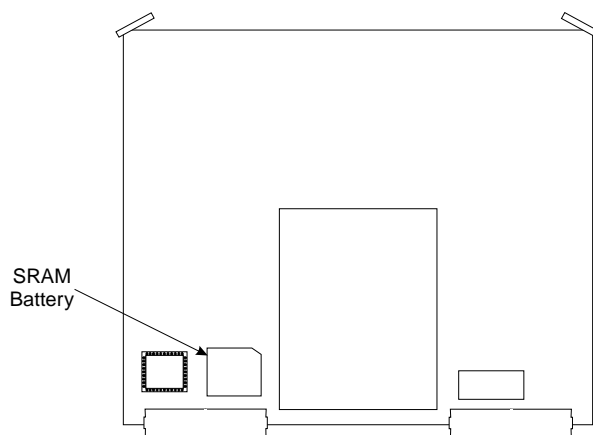

Figure 8-4. Location of SRAM Battery on the A9 PCB
- Step 3. Locate and carefully remove the SRAM battery from the A9 PCB. See Figure 8-4.